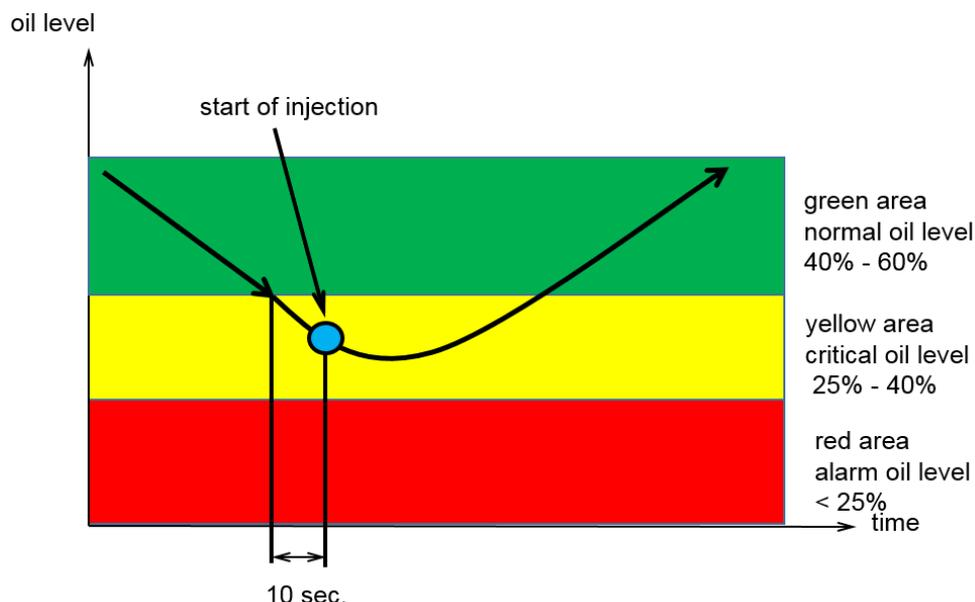

Fig.1 Logic of filling – critical area
2. Oil Level Controller with Rotalock adapter: Place Teflon seal in compressor (Fig. 1).